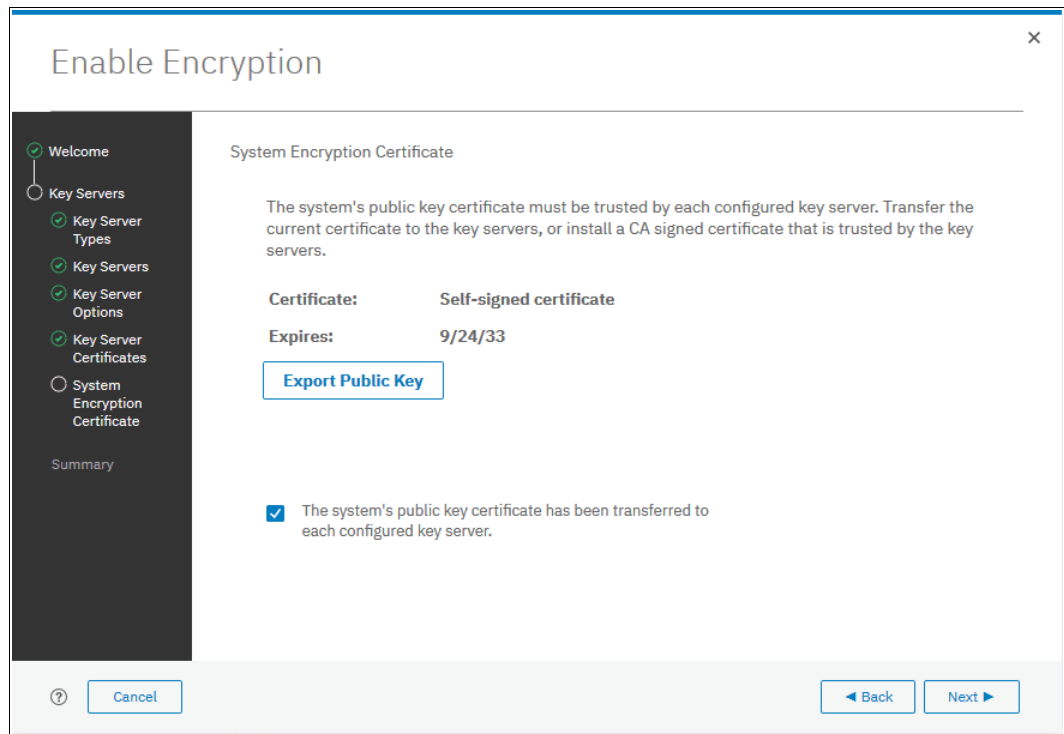

Figure 13-37 Acknowledge IBM Spectrum Virtualize public key certificate transfer
9. When the IBM Spectrum Virtualize system public key certificate is installed on the SKLM key servers, acknowledge this installation by selecting the box that is indicated in blue Figure 13-37 and click **Next**.